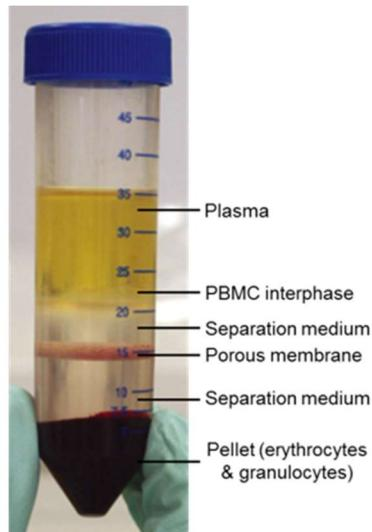

Figure 8.2. Layers formed after centrifugation of a Leucosep tube.
6. After centrifugation the LeucoSep tubes will look similar to **Figure 8.2.**